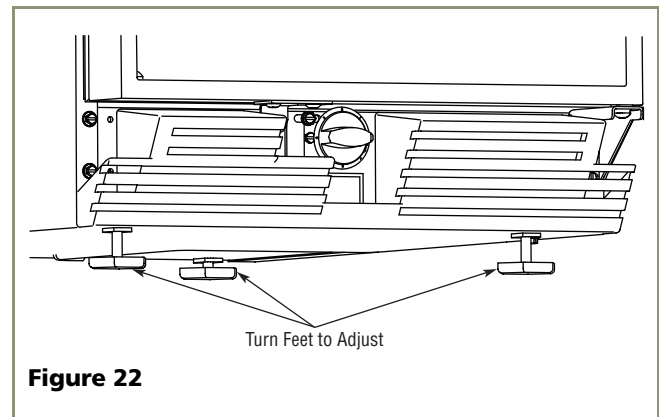

Figure 22
2. If the unit is not level, adjust the feet on the corners of the unit as necessary (see **Figure 22**).